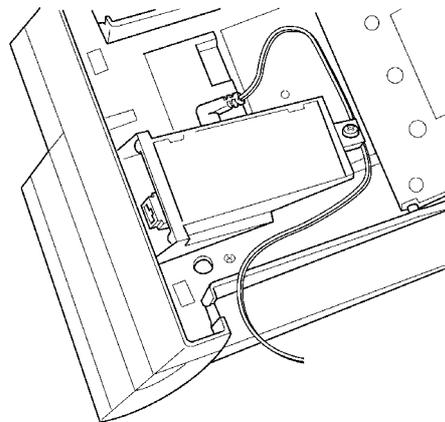

Figure 7-17 Leading the Telephone Cord out from the Unit
4. Plug the cord of the ACA-UA Unit (AC adaptor) into the jack on the APR-UA Unit. Lead the telephone cord out through the groove in the base as shown in *Figure 7-17 Leading the Telephone Cord out from the Unit*.